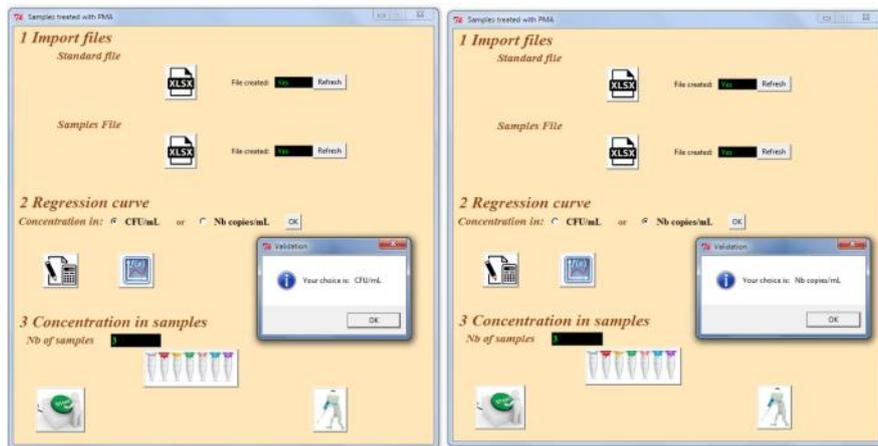

Figure 6: The fourth step: Selected units : CFU.mL^{-1} or number of copies. mL^{-1}
- **2 Regression curve:** In first time select the concentration, The choice is CFU.mL^{-1} or $\text{number of copies.mL}^{-1}$ and click on the Ok button to valide, a new window appears and indicates your choice. If you are agreed click on the Ok button (Figure 6).